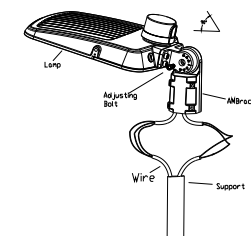

Figure 13
Step 1: Loosen the four bolts on AM bracket, connect the wires correctly, and pull the wires into the poles. (Figure 13)